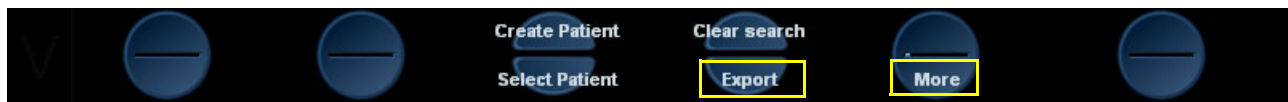

Figure 8-140 Export and More Soft-Keys
- 4.) Click the **Export** soft-key at the bottom of the screen - see Figure 8-140.